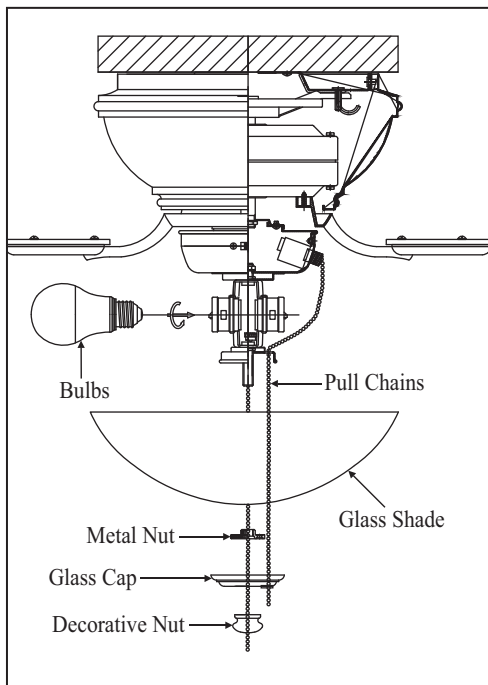

Figure 14
4. Install 2 x 9.5W LED bulbs (included). (Fig. 14)
5. Remove the metal nut from the light kit stem. Raise the glass shade up against the light kit, place the metal nut on the top over the stem and turn it clockwise until it locks up against the glass shade. Do not overtighten. (Fig. 14)
6. Raise the glass cap and decorative nut against the glass shade and secure them to the stem by turning the decorative nut clockwise until snug. Do not overtighten. (Fig. 14)